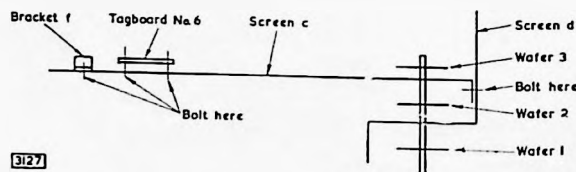

Fig. 6—SCREEN POSITIONS
- (1) The erase and record/playback coaxial sockets which have to be fitted to the chassis beneath wafer 3 of switch SA.
- (2) The nylon-loaded valveholder for the ECC83 complete with the skirt for the screening can. The gap between pins 1 and 9 should face towards the coaxial sockets.
- (3) A five-way tag board (Bulgin, type C120). This should be bolted to the internal screen c in the position marked 'Tagboard No. 6' in the screen assembly diagram of Fig. 6.
- (4) The small fixing bracket f, which should be bolted to the screen c as indicated in Fig. 6.
After fixing the components listed above, the construction is continued by assembling wafers 1 and 2 of switch SA around the internal screen d. The wafers should be arranged so that positions 6 and 7 are at the bottom and the face of each wafer described as the 'rear' in the switch diagram (Fig. 5) is farthest from the switch plate. The internal screen c should be added to the assembly, both screens should be bolted together, and wafer 3 should be fitted in position, again with its 'rear' face (Fig. 5) farthest from the switch plate. The general arrangement of the switch wafers and internal screens is shown in Fig. 6. Details of spacers required for the assembly are shown in Fig. 5.